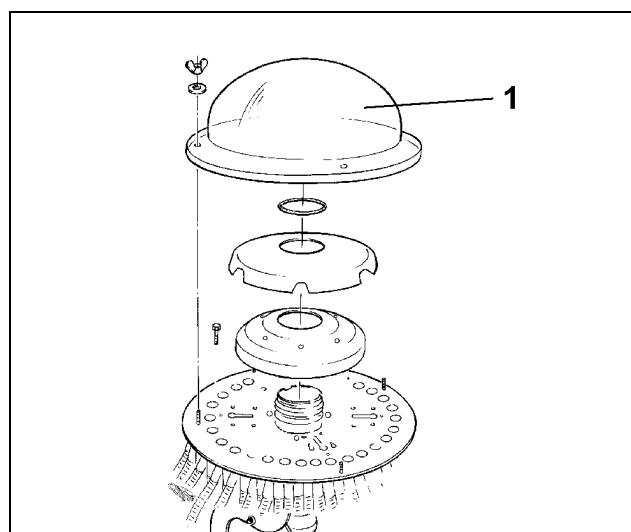

Fig. 105
- remove outer hood (Fig. 105/1) of the distributor head.